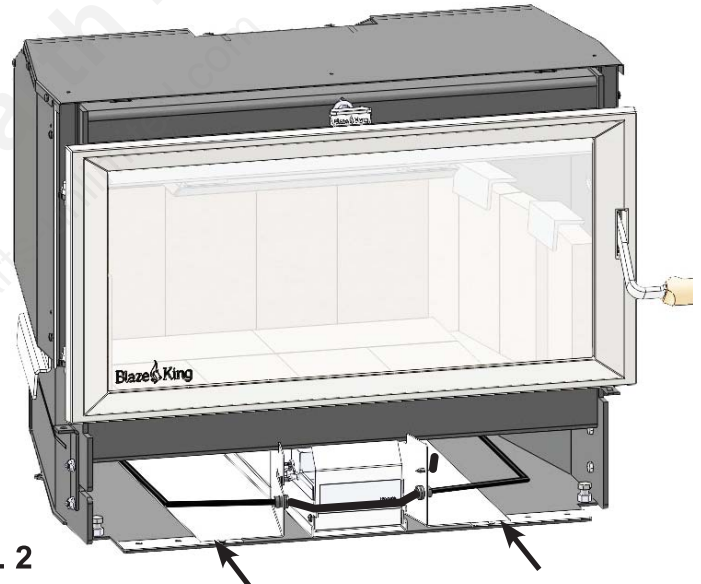

Fig. 2
3. Ensure fans have not shifted during transport and are in correct position, they should be in notch of fan mount guides. (**Fig. 2**)